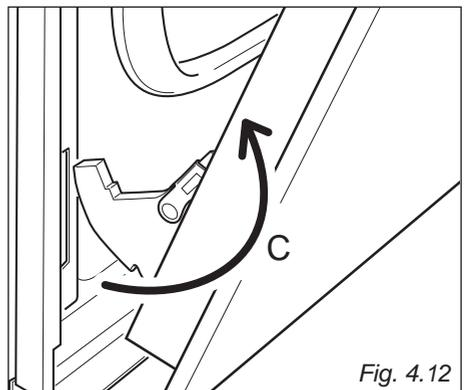

Fig. 4.12
- Withdraw the hinge hooks from their location following arrow "C" (fig. 4.12).